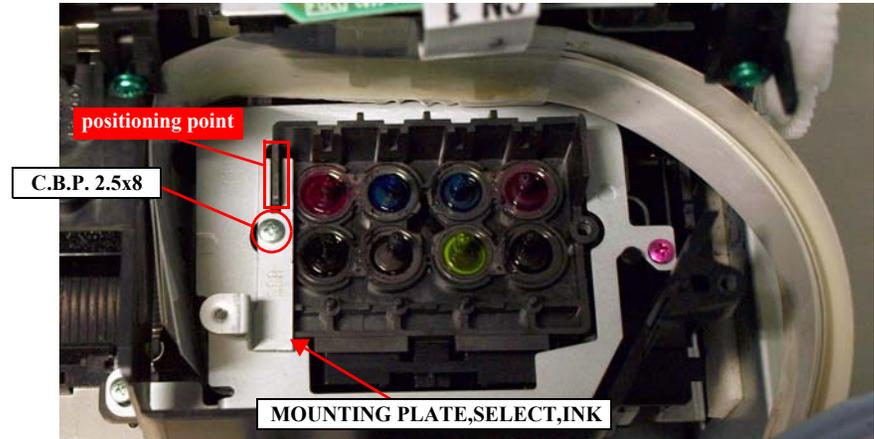

Figure 4-89. Removing the MOUNTING PLATE, SELECT, INK
4. Remove the screw that secures the MOUNTING PLATE, SELECT, INK and remove it. See Figure 4-89.